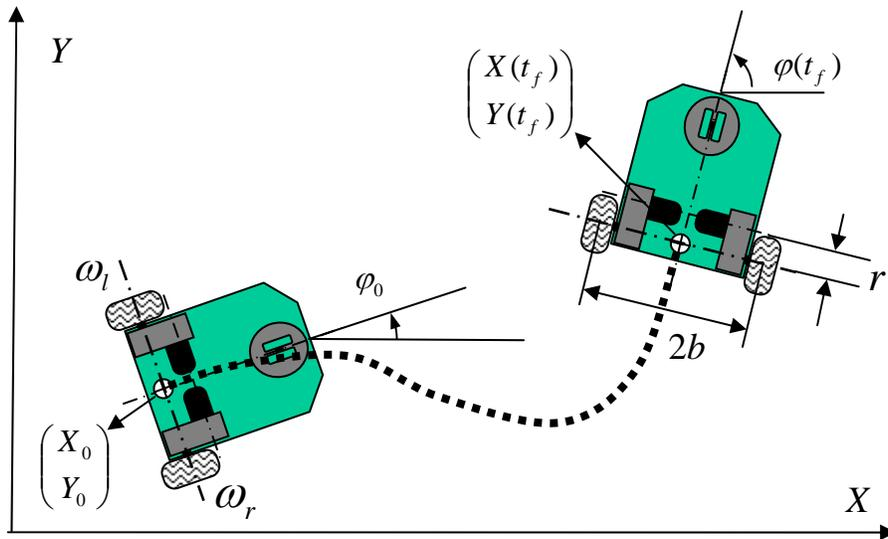
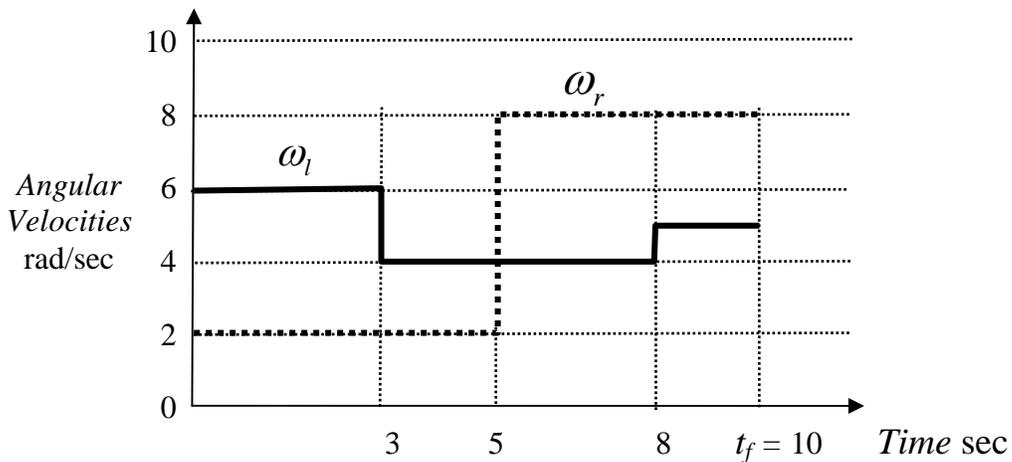

Figure 1 Vehicle trajectory
Figure 2 Time profiles of the wheel velocities
a). At time  $t = 0$ , the vehicle was at position  $X_0 = 20\text{ cm}$ ,  $Y_0 = 20\text{ cm}$  with reference to the inertial reference frame  $O-XY$  and at orientation  $\varphi_0 = 0$  measured from the positive X axis. See Figure 1. Then the vehicle moved. The time profiles of the wheel angular velocities during the movement were recorded, as shown in Figure 2. Compute the position and orientation of the vehicle at time  $t_f = 10\text{ sec}$  based on the time profiles shown in Figure 2. Assume no slip.